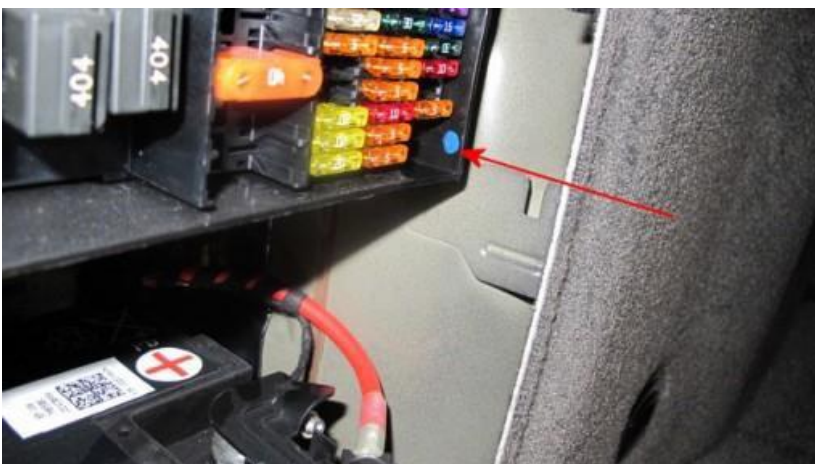

Figure 25
If the vehicle is not already listed as repaired in the "Repair history" (ElsaPro), check for the campaign identification mark, blue spot to the boot mounted fuse box adjacent to the main system battery positive post (see Figure 25), should neither be evident carry out the required work in accordance with these instructions
- On completion apply blue campaign completion mark (see Figure 25)
- On completion apply a blue campaign completion mark to the boot mounted fusebox adjacent to the main system battery positive post (see Figure 25)